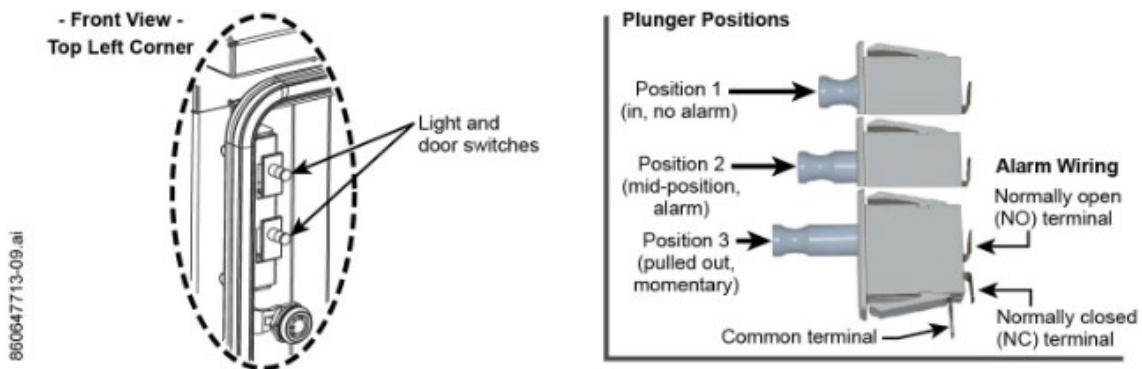

Figure 9. Light and Door Intrusion Switches
- LED light and door intrusion switches - Figure 9
The light and door intrusion switches are on the top left corner of the doorframe inside the cabinet. Connect the door alarm as required to an alarm center, Figure 9.